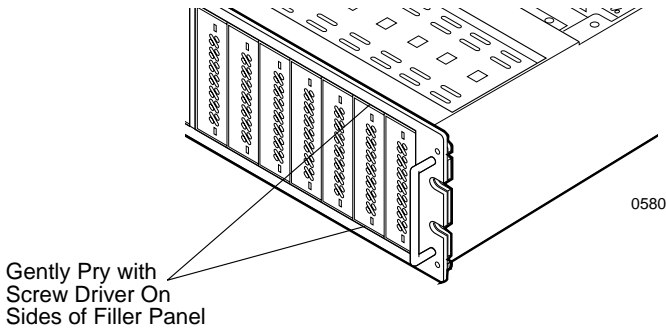

Figure 8: Removing the Filler Panel
1. Remove the filler panels from the DS400 by gently prying the left or right edge of each filler panel with the tip of a flat blade screwdriver (Figure 8).